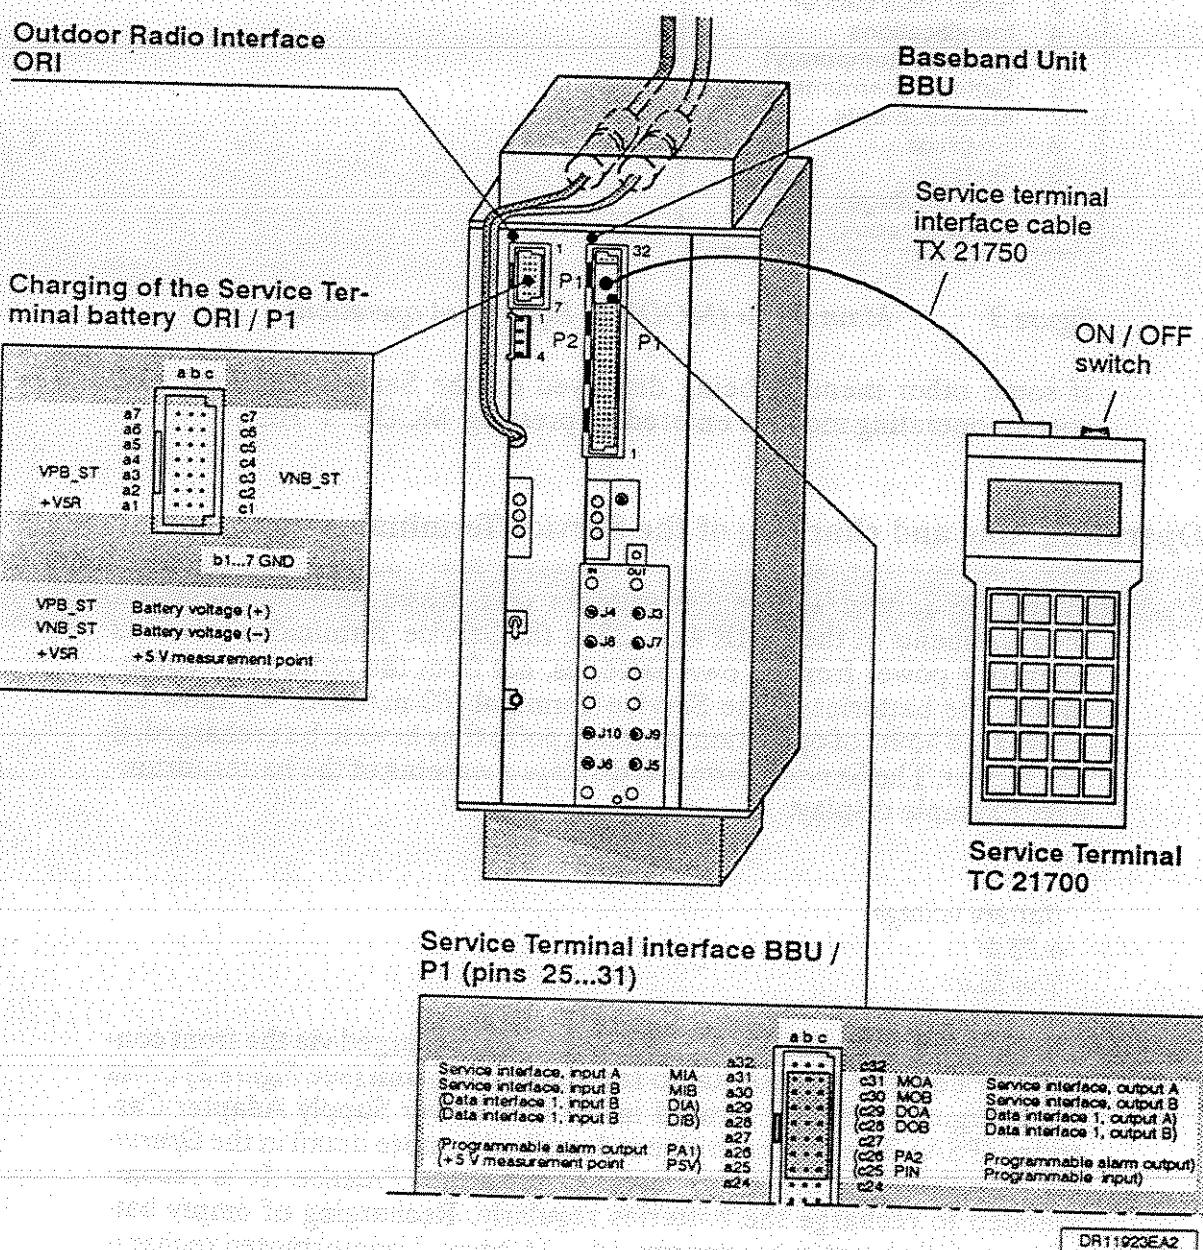

Figure 2 Connecting the Service Terminal to DMR 4x2-38W
The Service Terminal TC 21700 is connected to the DMR 4x2-38W Radio Relay Equipment with the Service Terminal interface cable TX 21750 as shown in Figure 2.
- Connect the Euroconnector of the cable to the service terminal interface on the Baseband Unit (BBU) with the connector P1 (see *Figure 2*)
The Service Terminal (TC 21700) is a hand-held device equipped with a 4 x 20 character display and a 24-key keyboard. The keys are used to enter numerical data and move through the Service Terminal menus or through the menu structure of the equipment connected to the Service Terminal. The menus and e.g. the statistics are displayed on the Service Terminal. The Service Terminal has a non-locking power switch (ON/OFF) and a connector for the Service terminal interface cable (see *Figure 2*).
Some functions in the DMR 4x2-38W have been protected in such a way that they can be accessed only through certain privileges. The protected functions include the settings and controls of the radio relay equipment. A function requiring privileges will prompt either for a password or a jumper setting for the PIN signal (i.e. connection of the pin PIN to the ground pin, see *Figures 2 and 6*) depending on the settings presented below before the function can be accessed. A proper U-jumper is needed for the jumper setting of the HWP and PIN signal. In addition, certain connectors must be disconnected before the jumper setting can be done.